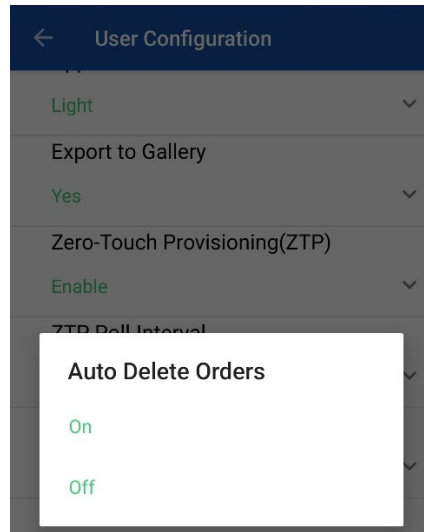

Figure 99: Auto Delete Orders
4. The OASIS Workflow Summary page launches, as shown in Figure 99.